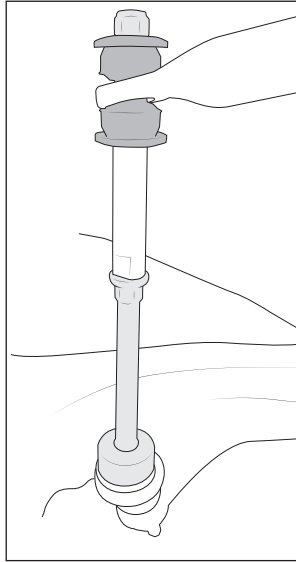

Figure 17
18. Install sway bar endlink extensions onto factory endlinks and torque to 16 ft-lb. Reinstall washers, bushings, and nuts to secure sway bar to new endlink extensions. Torque nut to 16 ft-lb. (fig. 17).